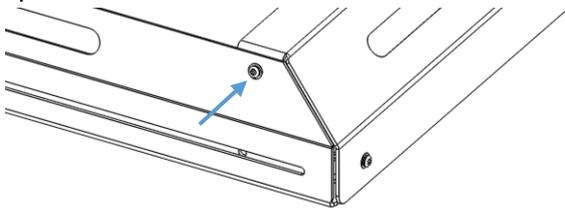

Figure 14: Back Panel to Side Rail Assembly
- Secure the Back Panel to the Side Rail as shown in Figure 14 on both sides with the #10-32 x 3/8" bolts.